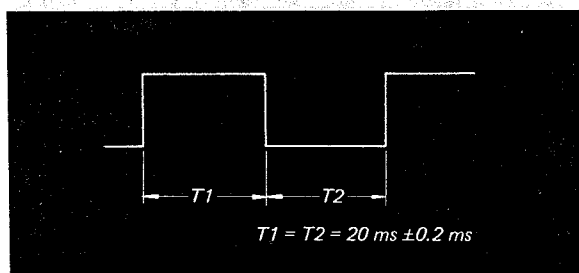

Fig. 7-5.
2. Adjust R437 so that T1 and T2 are 20 msec \pm 0.2 msec (50% duty cycle) as shown in Fig. 7-5.